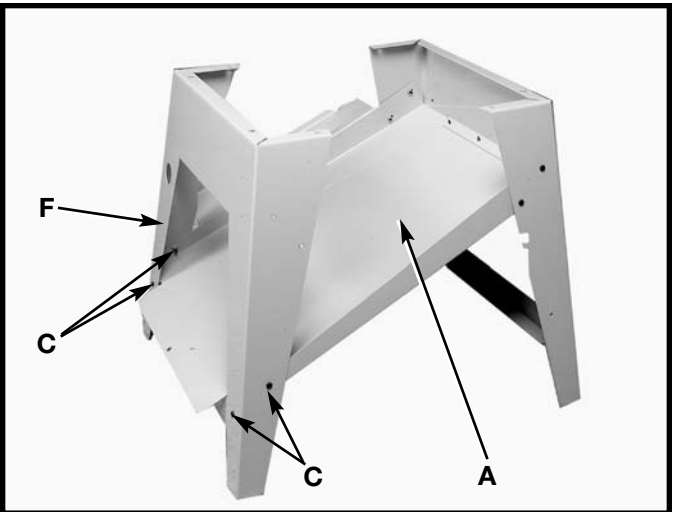

Fig. 6
3. Assemble the other end of dust chute and support panel (A) Fig. 6, to rear stand panel (F) as shown with four #10-32 x 1/2" screws and #10-32 hex nuts, which are shown at (C). **NOTE:** Do not completely tighten stand hardware at this time.